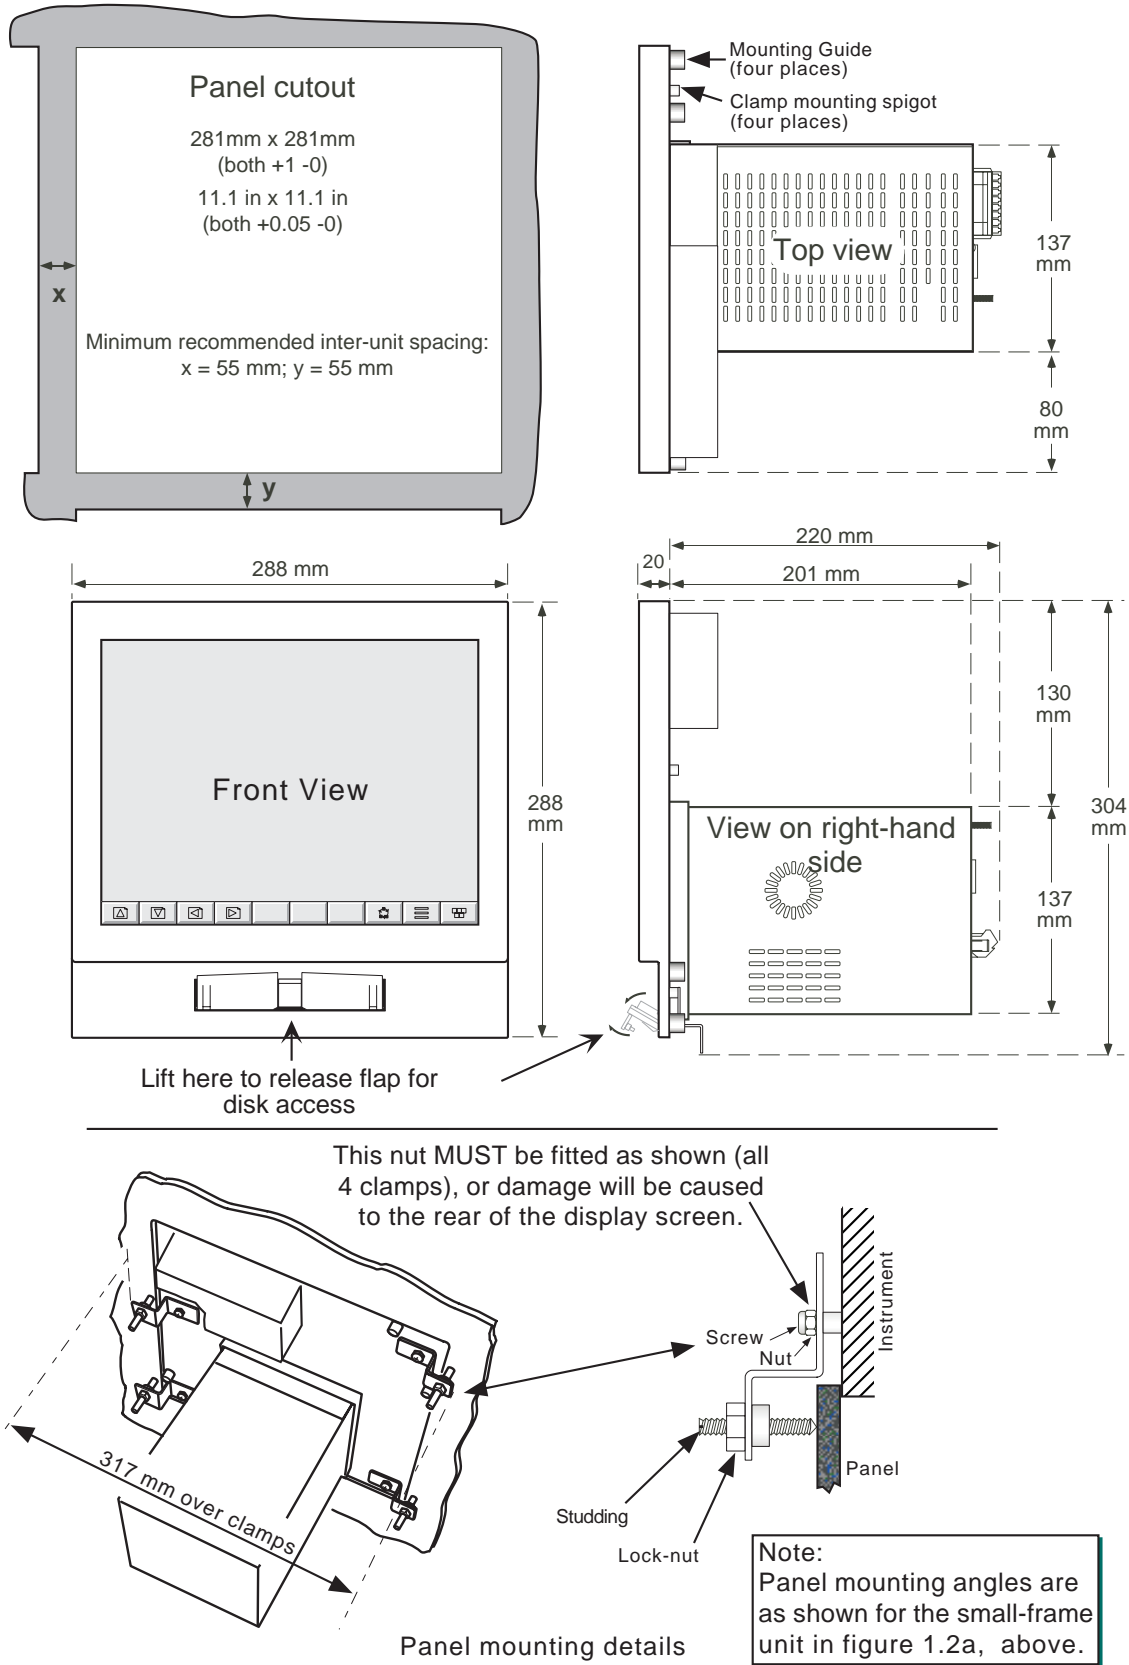

Figure 1.2c Large-frame unit mechanical installation (pre mid-June 2002)
2. In the panel, cut an aperture 281mm x 281mm. If more than one instrument is to be mounted in the panel, the recommended minimum spacings are as shown in figure 1.2c
3. Loosely fix the four clamps to their mounting spigots, ensuring a nut is located between each screw head and its clamp (figure 1.2c). Ensure that none of the clamps protrudes 'outside' the instrument bezel. Insert the studs (with locking nuts) provided into the clamps (if this has not already been done).
5. Rotate the clamps to (approximately) the positions shown in figure 1.2c, and fully tighten the clamp securing screws.